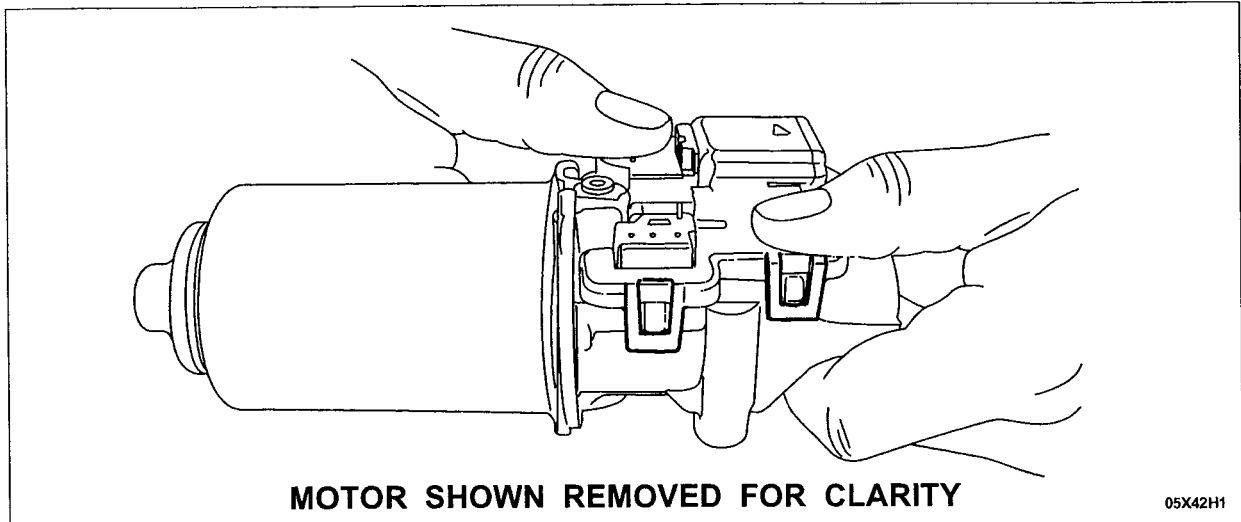

FIGURE 8
- Using two (2) hands, push the gear cover downward onto the gear housing uniformly, to ensure that the electrical terminals remain in alignment. Push down firmly until all five (5) locking tabs are latched correctly. See Figure 8.